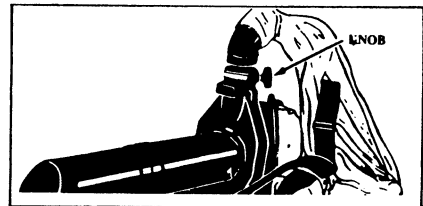

Figure 11
10. Align the Collection Bag Elbow Tube to exhaust in an upward direction. See Figures 11&13. Adjust the Vacuum Collection Bag until the Shoulder Strap is aligned with the upper handle. Figure 13. Secure the Collection Bag Elbow to the engine by tightening knob or screw on Impeller Housing until hand-tight.
7. Align the Collection Bag Elbow Tube to exhaust in an upward direction. See Figures 11&13. Adjust the Vacuum Collection Bag until the Shoulder Strap is aligned with the upper handle. Figure 13. Secure the Collection Bag Elbow to the engine by tightening knob or screw on Impeller Housing' until hand-tight.